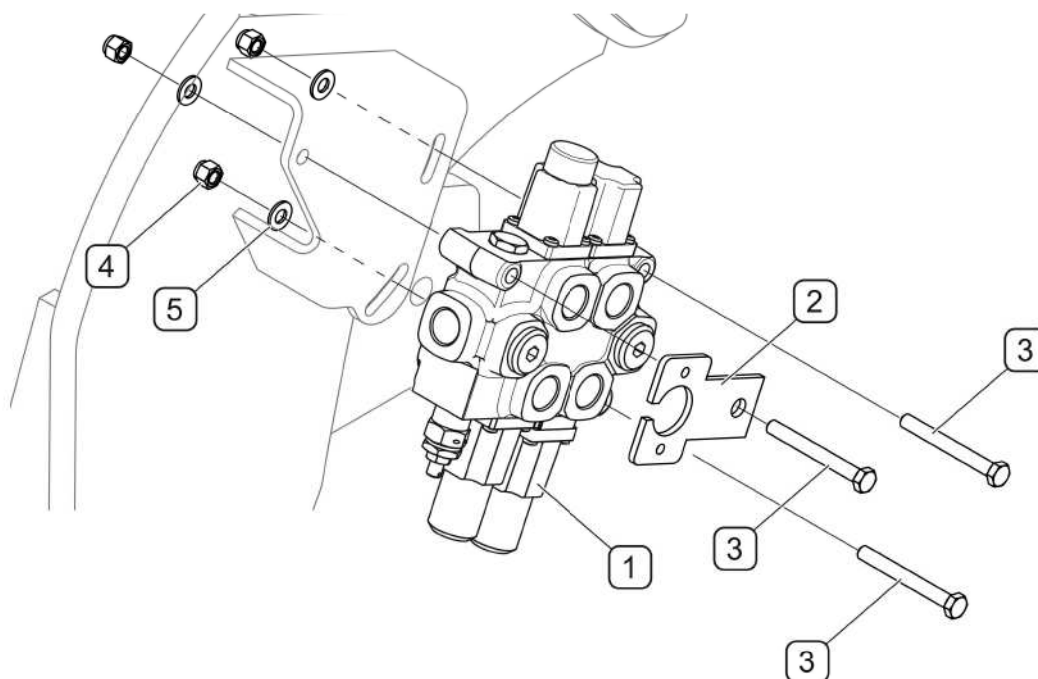
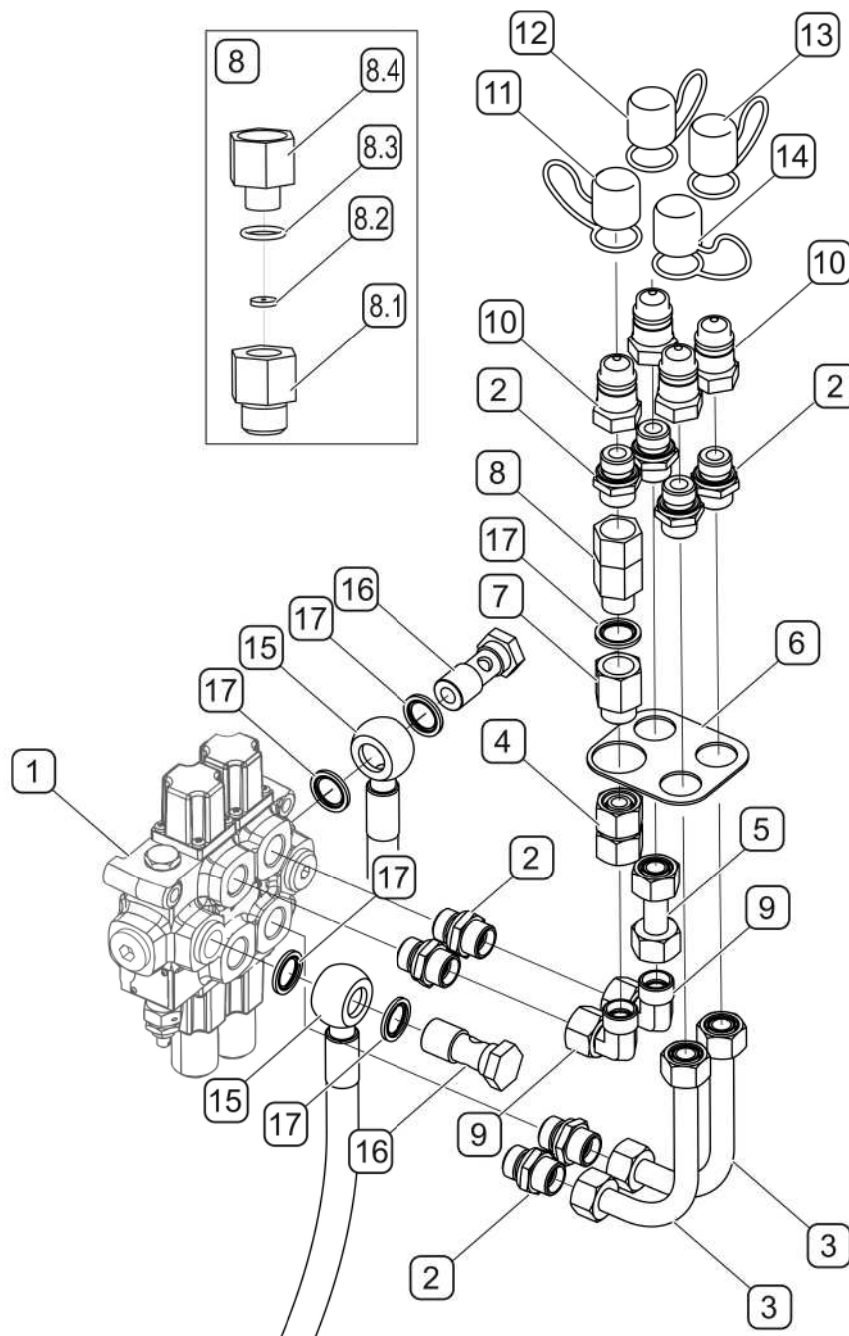

FIG. 4.7AND Installation of the hydraulic selective control valve on arm support
FIG. 4.8A Installation of the hydraulic selective control valve LC2
(1) - hydraulic selective control valve, (2) - electrical socket bracket, (3) - bolt M8x70-8.8, (4) - nut M8-8, (5) - washer 8-100HV
Secure hydraulic selective control valve (1) to the right support frame bracket (FIG. 4.7A) with bolts (3), nuts (4) and washers (5). In loaders with 3-section control (option), in addition to selective control valve, electrical socket bracket (2) (FIG. 4.7A) must be installed. Selective control valve must be installed (FIG. 4.8A) (if not already installed by the manufacturer).